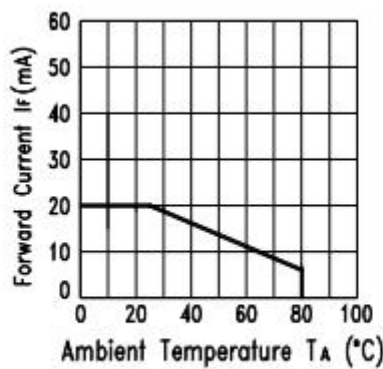
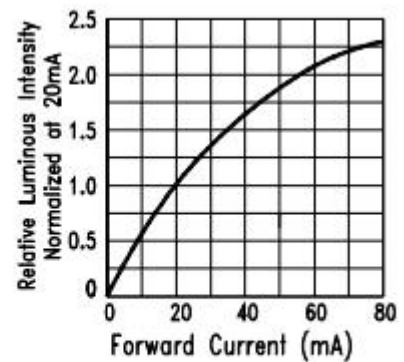

Fig.3 Forward Current Derating Curve
Fig.4 Relative Luminous Intensity vs. Forward Current
- 3、Use stand-offs (Fig.3) or spacers (Fig.4) to securely position the LED above the PCB.